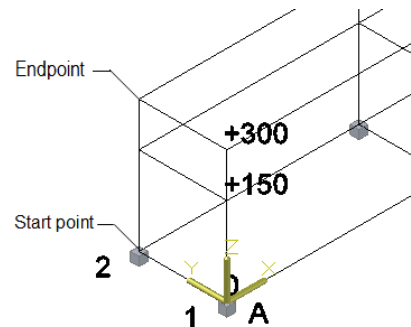
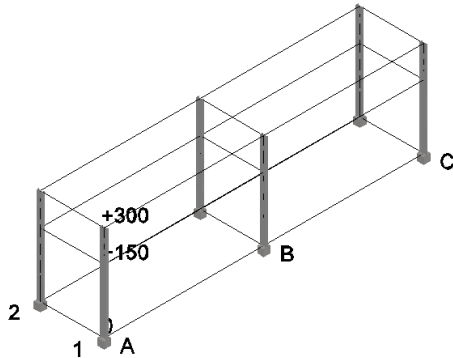

Figure 3-30 Selecting the start point and the endpoint of the column
Figure 3-31 Model after creating columns
4. Select the grid point, as shown in Figure 3-30; you are prompted to select the endpoint.
5. Move the cursor vertically upward and snap to the grid point, refer to Figure 3-30. Next, click to select it; the column is created between the two selected points. Similarly, place columns on other footings, as shown in Figure 3-31. You can also use the **Copy** command to create rest of the columns.